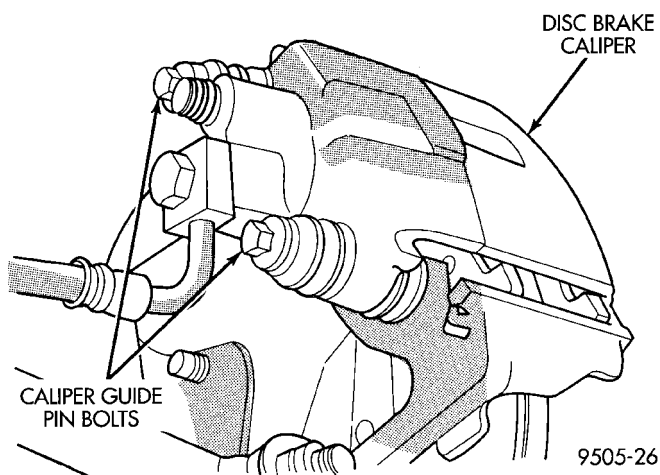

Fig. 68 Caliper Assembly Guide Pin Bolts
(3) Remove the 2 caliper assembly to adapter guide pin bolts (Fig. 68).
(5) Install caliper assembly guide pin bolts into adapter and tighten (Fig. 68). Then torque both guide pin bolts to 22 N·m (192 in. lbs.).
(6) Install the wheel and tire assembly.
(7) Tighten the wheel mounting stud nuts in proper sequence until all nuts are torqued to half specification. Then repeat the tightening sequence to the full specified torque of 135 N·m (100 ft. lbs.).
(8) Remove jackstands or lower hoist. **Before moving vehicle, pump the brake pedal several times to insure the vehicle has a firm brake pedal.**
(9) Road test the vehicle and make several stops to wear off any foreign material on the brakes and to seat the brake pads.